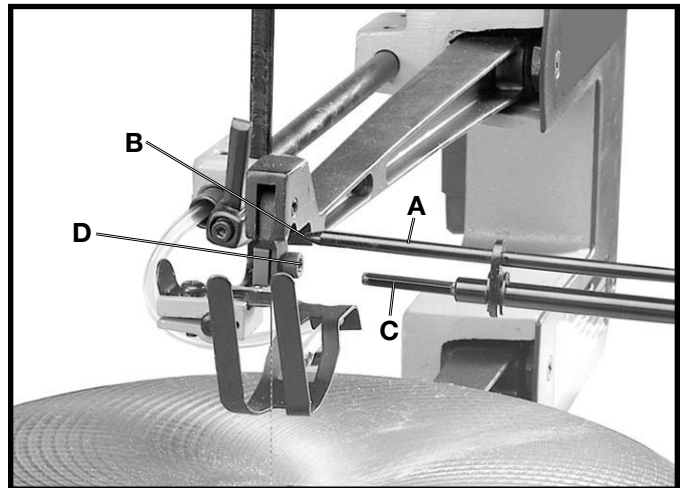

Fig. 14
4. Insert long end (A) Fig. 14, of quickset blade changing wrench into hole (B) in upper blade holder. This will align wrench (C) with blade holder screw (D).